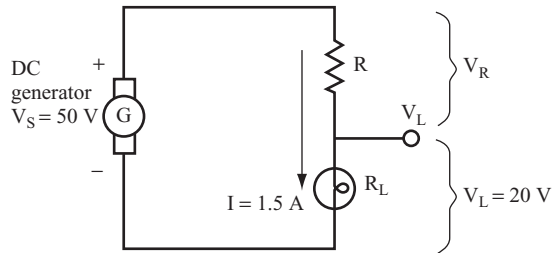

FIGURE 2.27
**25** Examine an application in which a constant voltage is wanted—for example, a lamp driven by a DC generator. In this example, when the generator turns at full speed, it puts out 50 volts. When it runs more slowly, the voltage can drop to 35 volts. You want to illuminate a 20-volt lamp with this generator. Assume that the lamp draws 1.5 amperes. Figure 2.27 shows the circuit.